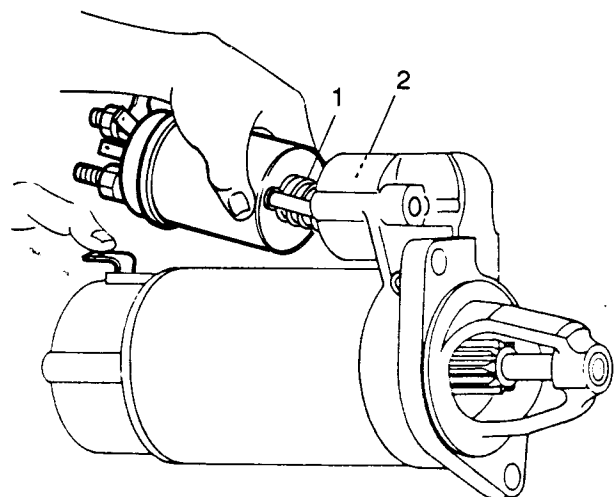

Fig O6.10
- (4) Refer to Fig O6.10. Remove the plunger (1) from the drive engagement lever (2) by gripping the plunger in the hand and applying an upward lift at the front of the plunger.